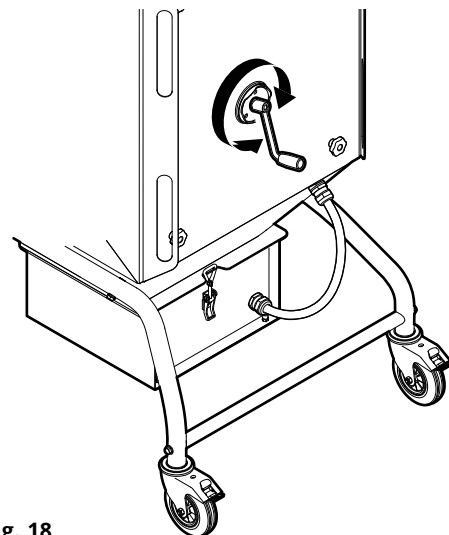

Fig. 18
2. Rotate the filter cartridge via the crank, approx. 5 revolutions. See Fig. 18.